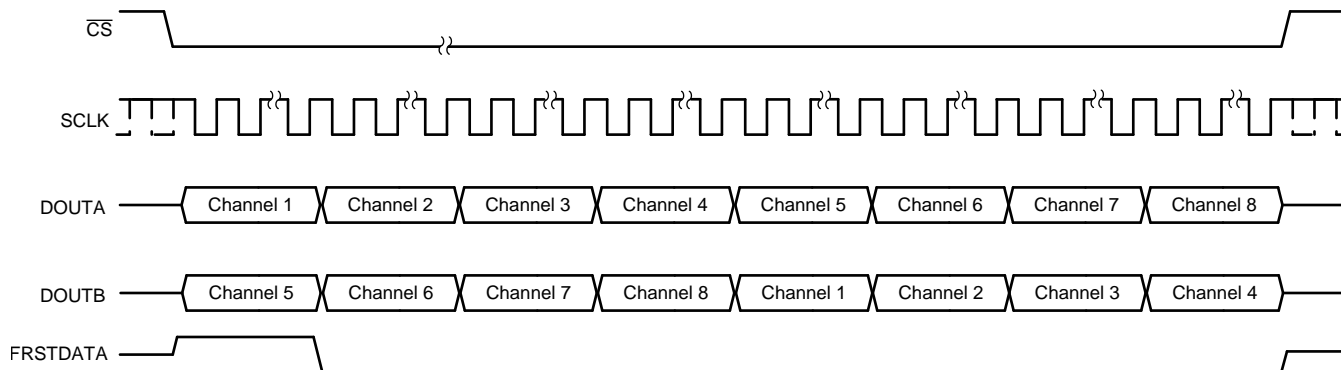

Figure 69. Data Read Back in the Serial Interface Using Either DOUTA or DOUTB Timing Diagram
- The conversion data can be read out of the device using only one of the two serial output lines, DOUTA or DOUTB. In this case, using DOUTA for output data read back is recommended because channel 1 data appear first on DOUTA followed by the data for other channels in ascending order. To read the data for all channels, provide a total of $16 \times 8 = 128$ SCLK cycles. This entire data frame can be created within a single \overline{CS} pulse or each group of 16 SCLK cycles can be individually framed by the \overline{CS} signal. The primary disadvantage of using just one data line for reading conversion data is that the throughput is reduced if a data read operation is performed after conversion. Figure 69 illustrates this operation.
- Alternatively, only DOUTB can be used for reading the conversion data from all channels. In this case, everything else remains the same and the output bit stream contains data for all channels in the following order: channels 5, 6, 7, 8, 1, 2, 3, and 4. Figure 69 illustrates this operation.